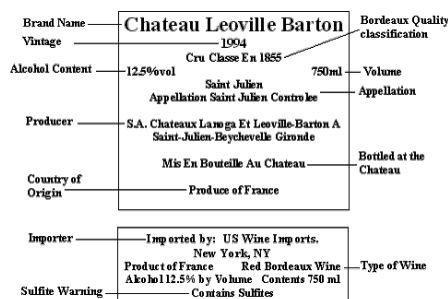

Figure 3: Label from the Wine sample showing the accepted alcohol concentration.
3. Calculate the percent error for % ethanol of wine sample. The accepted value for the wine sample is 12.5% as shown in **Figure 3**. (1 pt)